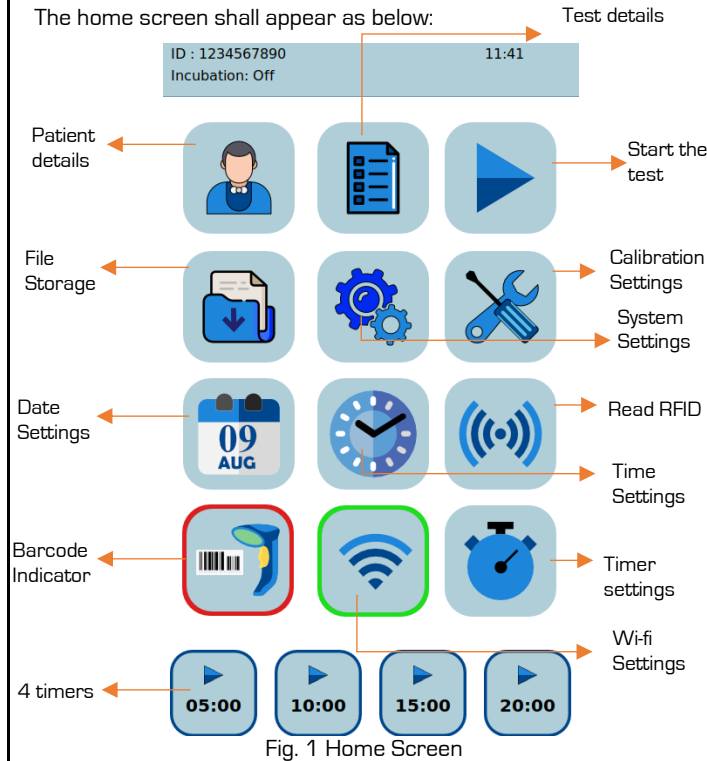
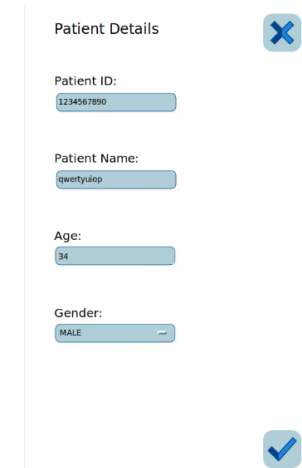

Fig. 1 Home Screen
Fig. 2 Patient Details screen
1. To enter a patient ID for a test, press on patient details from home screen [refer fig. 1]. User has option to add Patient ID, Name and Gender with a alphanumeric keypad, after entering details press the tick button [refer fig. 2].
2. To select test type, press on Test Details, from the list displayed on home screen [refer fig. 1], select a Test and its details shall appear on the screen.
3. After clicking on the 'Tick' button, the display shall change to home screen [refer fig. 1]. Now press 'Start' and the test shall start and shall display "Processing".